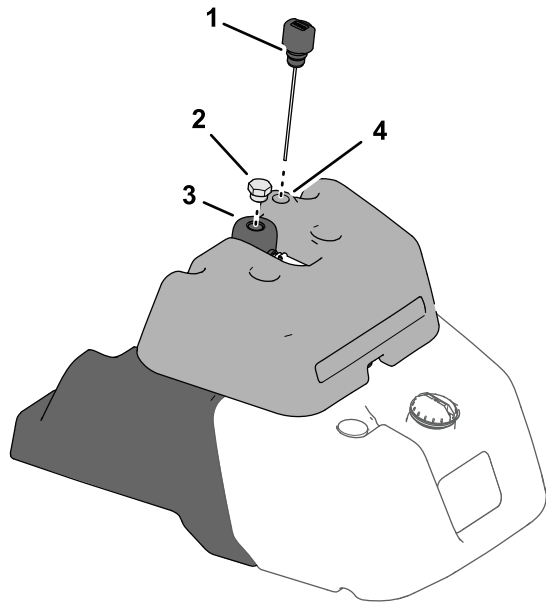

Figure 37
- If your machine has a fuel gauge at the top of the fuel tank, locate the dipstick for the hydraulic system at the top of the leak detector tank (Figure 37) and proceed to step 3.